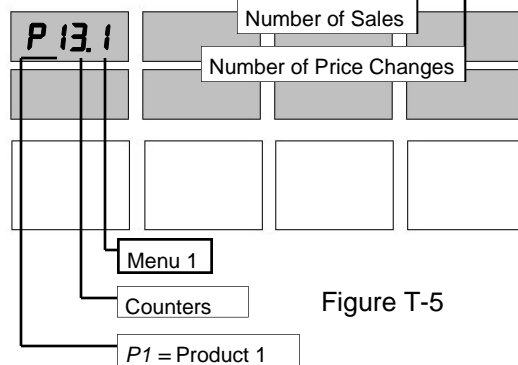

Figure T-5
1. Press the +/- button. (See Figure T-3.) The main sales display indicates Product 1 counter totals. See Figure T-5.
3. Tap the magnet over the (Gallons, Liters) print again to read the Counters Totals (Number of Sales and Number of Price Changes) for Product 1. The displays will appear as in Figure T-5 with P13.1 showing in the price per gallon window to indicate the first Counter totals for Product 1.